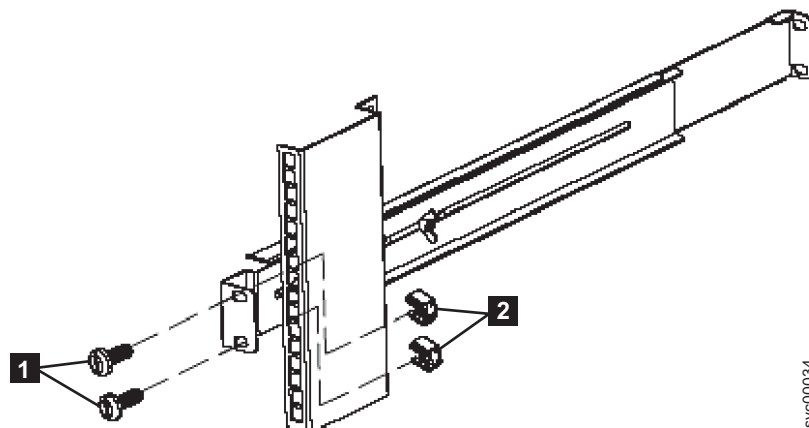

Figure 28. Securing the rear rail on the 2145 UPS-1U
7. Using two M6 × 10 screws (**1** in Figure 28) and two clip nuts (**2**), attach the rail to the rear of the rack. The customer's rack might be different than the one shown here, and if so, might require different clip nuts or fasteners.